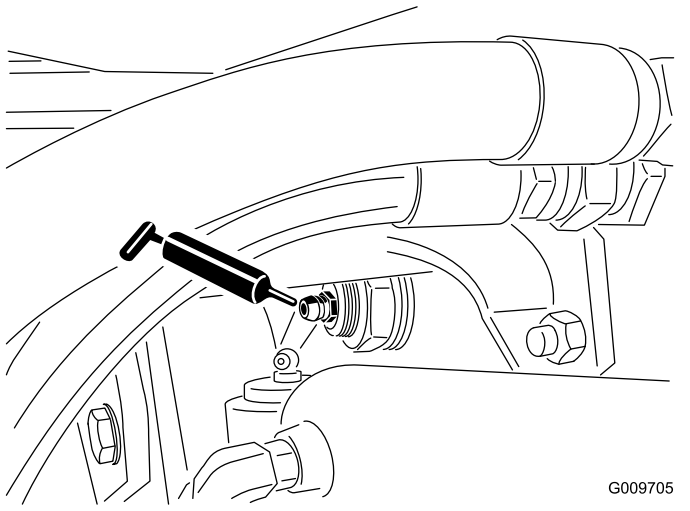

Figure 42
- Rear axle pivot bushings (2) (Figure 42)